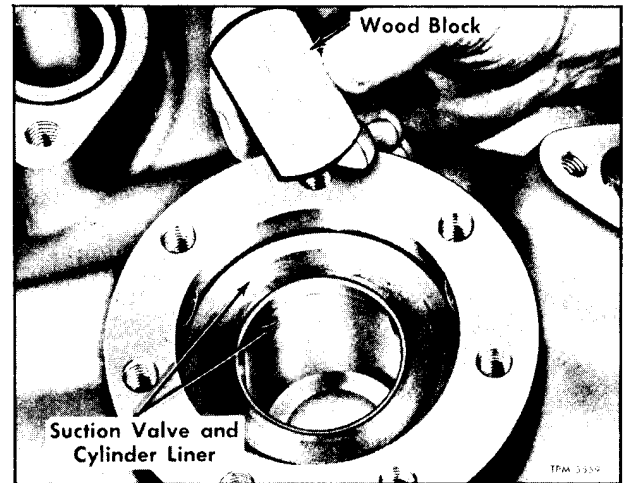

Figure 43—Wood Block Used for Removal of Suction Valve and Cylinder Liner
NOTE: The suction valve plate (14) is tapered in toward the top. A block of soft wood should be cut and shaped to fit into this taper (fig. 43).